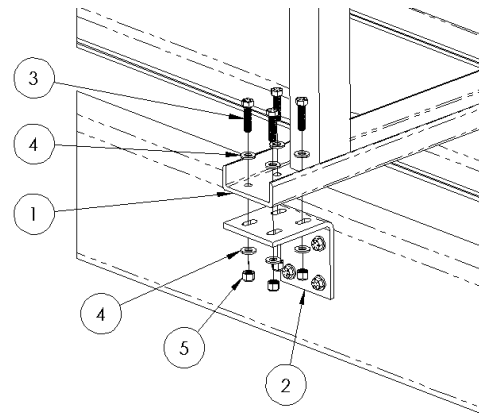

Figure 1.3
Lower the gantry frame (1) onto the brackets (2) and insert (QTY 8) 3/4-10 x 2.0" long grade 8 hex head bolts (3), (QTY 16) 3/4 grade 8 flat washers (4), and (QTY 8) 3/4-10 grade 8 nylock nuts (5). Align gantry frame for squareness before tightening fasteners. (Figure 1.3)